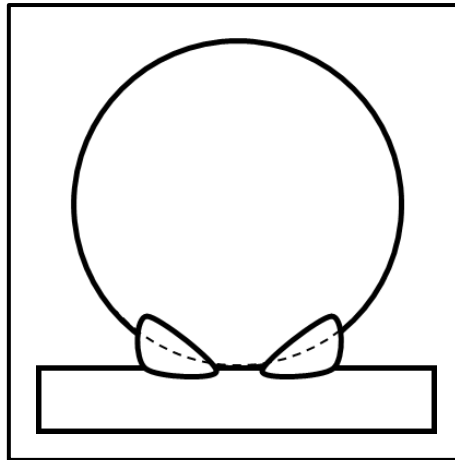

FIGURE 5.3
- 5.3 Draw the welding symbol for the joint that needs to be arc welded in FIGURE 5.3 below.